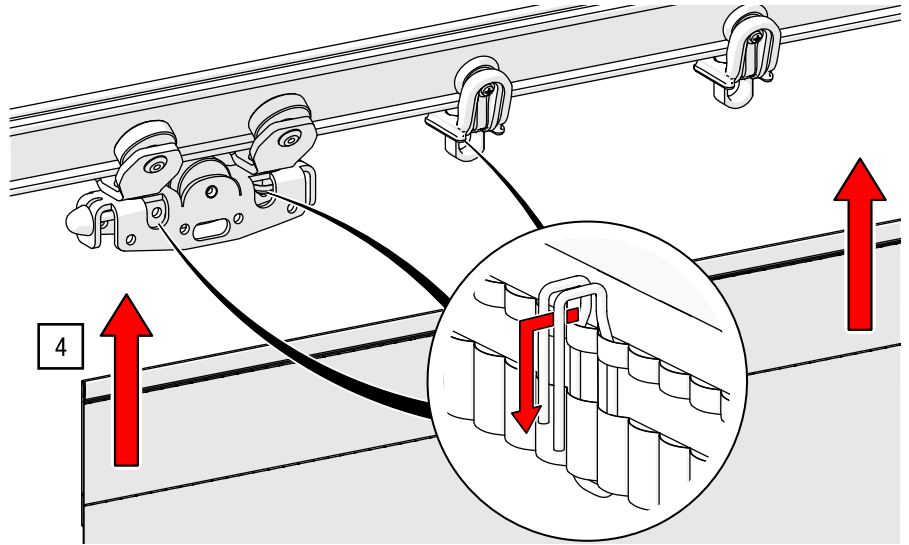

Fig. 101: Curtain with curtain hooks – Hang curtain into master runner overlap arms
4. Lift the curtain and hang the curtain hooks into the upper holes of the master runner and into the central mount of the runners (see Fig. 101).